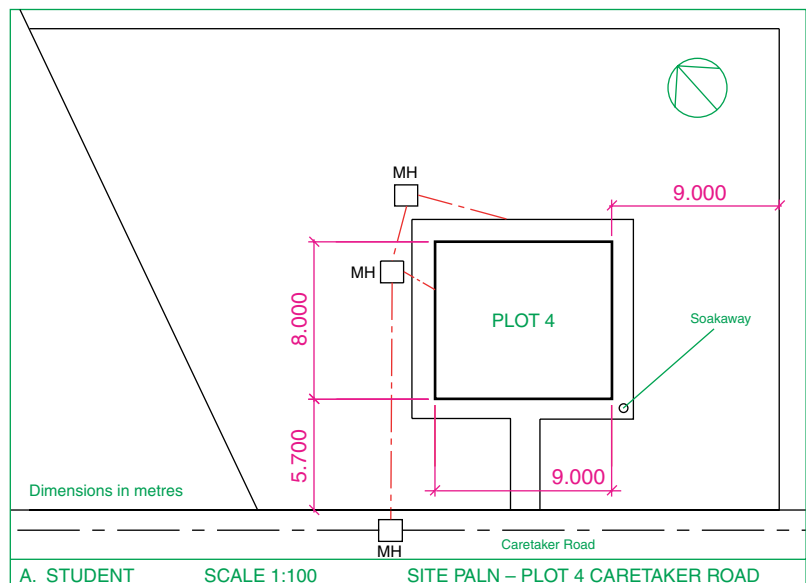
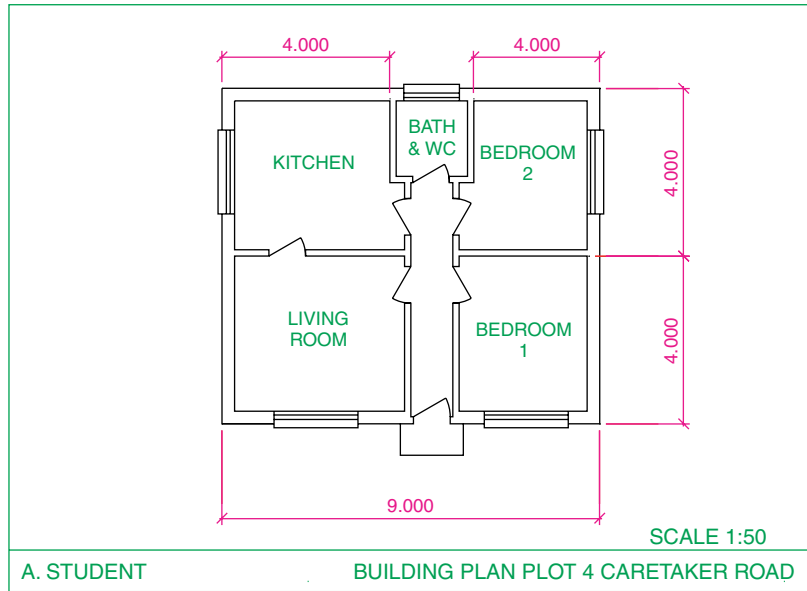

Fig. 12.11 Exercise 3 – site plan
Fig. 12.12 Exercise 3
3. Fig. 12.11 shows a scale 1:100 site plan for the proposed bungalow at 4 Caretaker Road. Construct the floor layout for the proposed house shown in the drawing in Fig. 12.12.